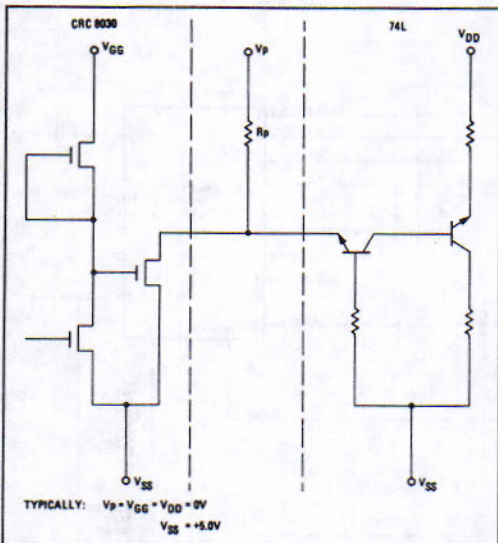

Figure 15. CRC 8030/Low Power TTL.
A. Low Power TTL Drive (see figure 15):